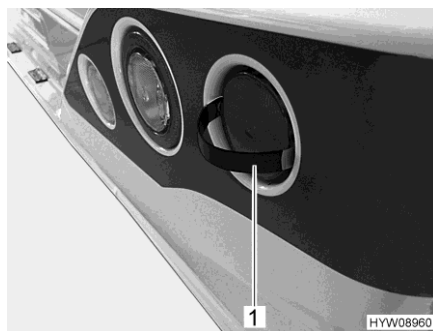

Fig. 156 Remove the cover
- Insert the snap-in lugs of the supplied tool (Fig. 156,1) at the sides of the cover as shown.